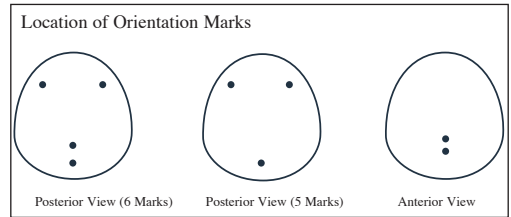

FIGURE 1
- *NATRELLE®* 410 Re-sterilizable Sizers contain Soft Touch gel and include orientation marks. (see Figure 1)